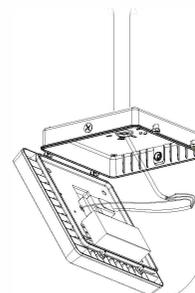

Figure 1-6
6. Turn the radiator up then cover the junction box, Figure 1-6